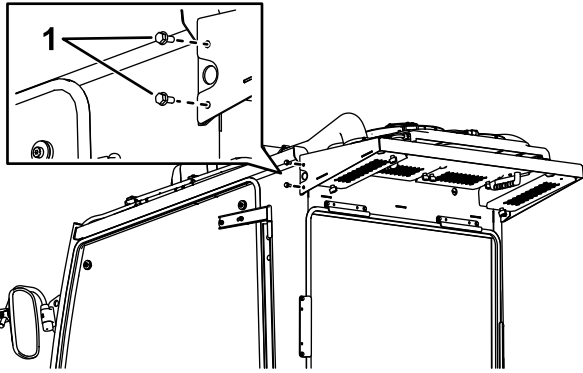

Figure 4
- Remove the 2 screws behind the left door of the cab as shown in Figure 4.